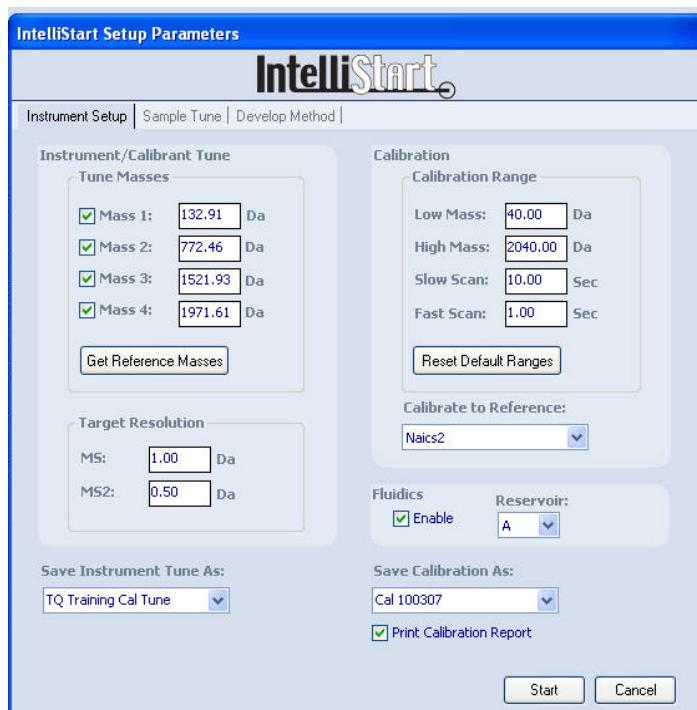

Figure 29 - Instrument Setup tab
5. Click the **Instrument Setup** tab and set the instrument/calibrant tune masses, target resolution, calibration range, and flow path settings as shown in Figure 29.